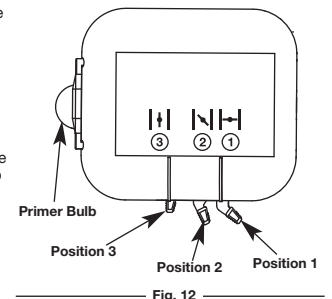

Fig. 12
4. Place the choke lever in **Position 1** (Fig. 12).
6. Place the choke lever in **Position 2** (Fig. 12).
9. Place the choke lever in **Position 3** (Fig. 12). The unit is ready for use.